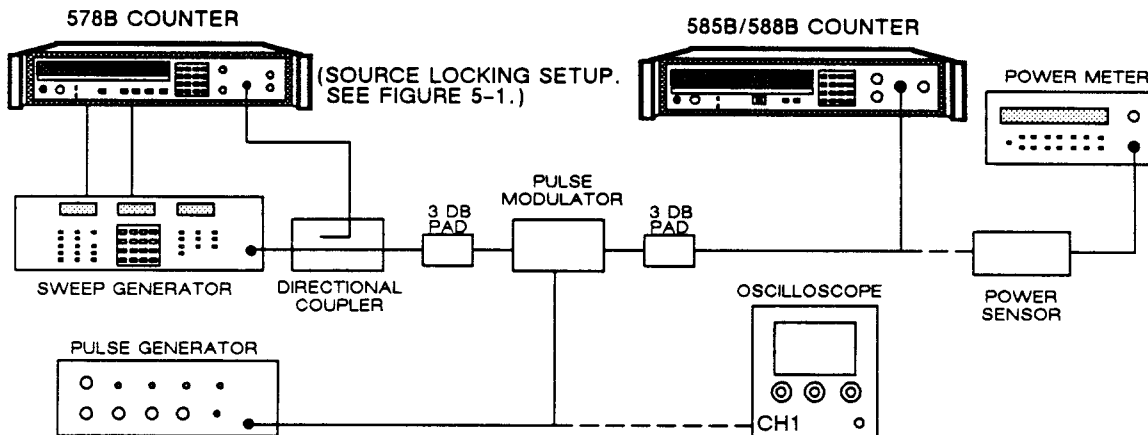

Figure 5-6. Band 2 Pulsed Signal Range and Sensitivity Test Setup
1. Connect equipment as shown in Figure 5-6.